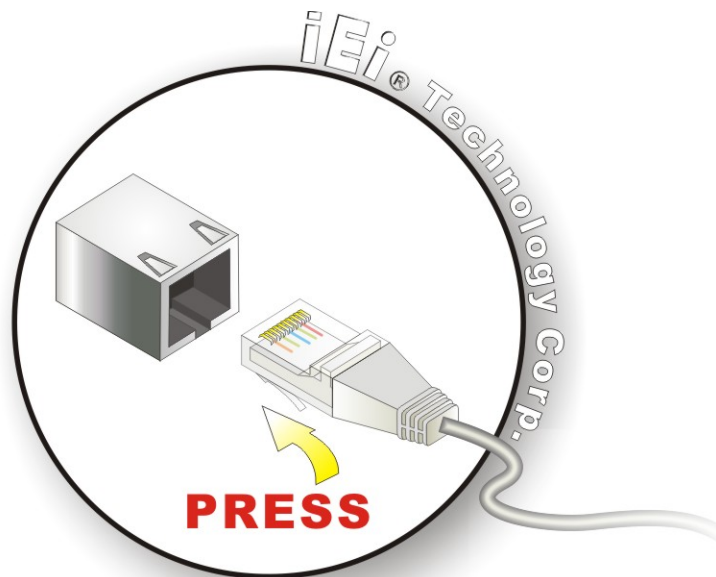

Figure 3-23: LAN Connection
Step 2: **Align the connectors.** Align the RJ-45 connector on the LAN cable with one of the RJ-45 connectors on the bottom panel of the AFOLUX LX Series. See **Figure 3-23**.